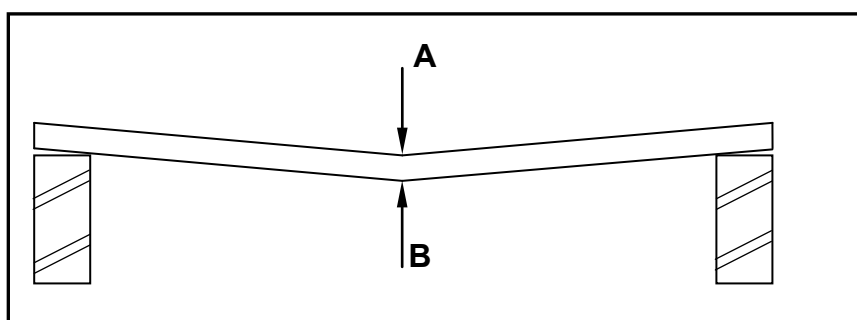

FIGURE 2.6
2.6 FIGURE 2.6 below shows a concrete beam with defects caused by forces acting on them. Name the types of forces that are responsible for the defects at **A** en **B**.